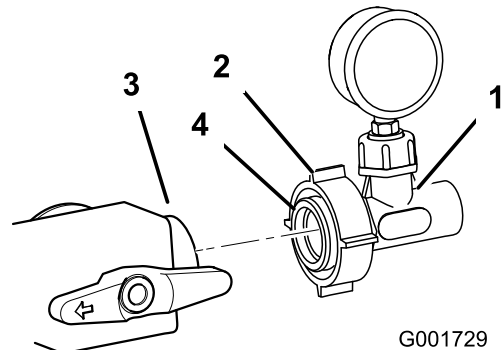

Figure 16
16. Lubricate the O-ring in the adapter with a non-petroleum based lubricant, such as vegetable oil (Figure 16).
17. Install the pressure gauge assembly to the forward facing opening in the control valve installed previously (Figure 16). Tight the plastic nut to secure the assembly to the valve.